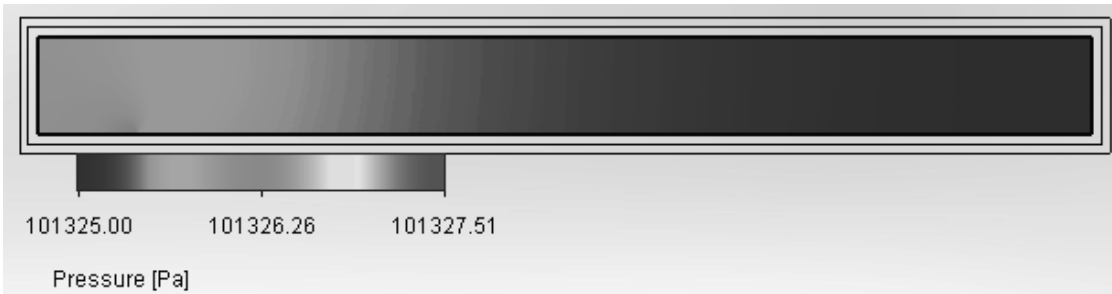

Figure 2.23a) Pressure distribution along the flat plate
23. Open the **Results** folder, right click on  Cut Plots in the  **Flow Simulation analysis tree** under **Results** and select **Insert...** Select the **Front Plane** from the **FeatureManager design tree**. Slide the **Number of Levels** slide bar to **255**. Select **Pressure** from the **Parameter** drop down menu. Click OK to exit the **Cut Plot** window. Figure 2.23a) shows the high-pressure region close to the leading edge of the flat plate. Rename the cut plot to **Pressure**. You can get more lighting on the cut plot by selecting **Tools>>Flow Simulation>>Results>>Display>>Lighting** from the SOLIDWORKS menu. Right click on the **Pressure Cut Plot** in the **Flow Simulation analysis tree** and select **Hide**.